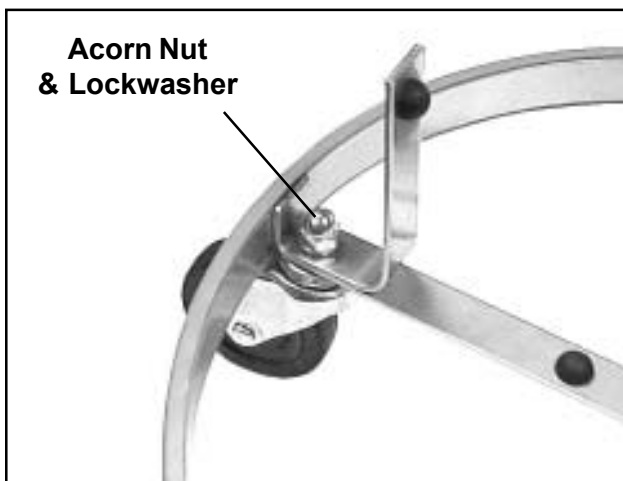

Figure 3. Caster Acorn Nut and Lockwasher
2. With a 5/8 in. wrench, remove the acorn nut holding the caster in place (Figure 3).
4. Install a new caster into the frame and secure with the lockwasher and acorn nut (Figure 3).